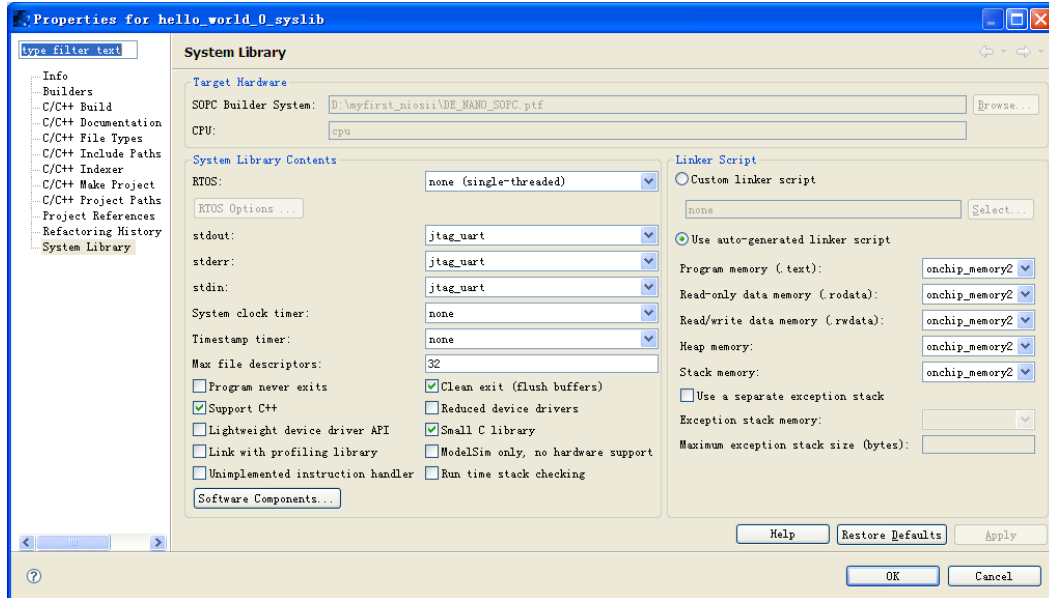

Figure 7-63 Configuring System Library Properties
3. In the **Linker Script** box, observe which memory has been assigned for **Program memory(.text)**, **Read-only data memory(.rodata)**, **Read/write data memory(.rwdata)**, **Heap memory**, and **Stack memory**, see Figure 7-63. These settings determine which memory is used to store the compiled executable program when the example **hello_world_0** programs runs. You can also specify which interface you want to use for **stdio** , **stdin**, and **stderr**. You can also add and configure an RTOS for your application and configure build options to support C++, reduced device drivers, etc.
4. Choose **onchip_memory2** for all the memory options in the **Linker Script** box. See **Figure 7-63** for an example.